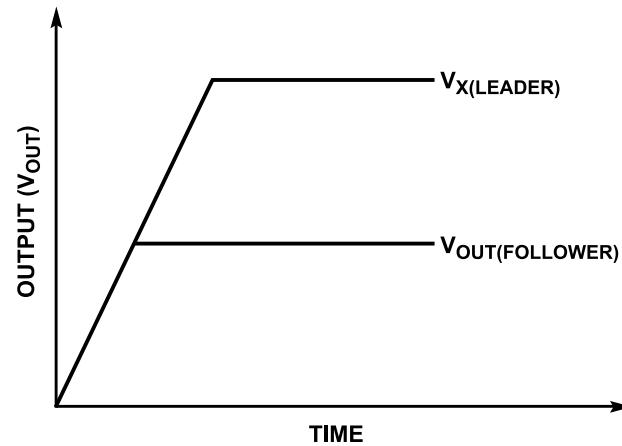
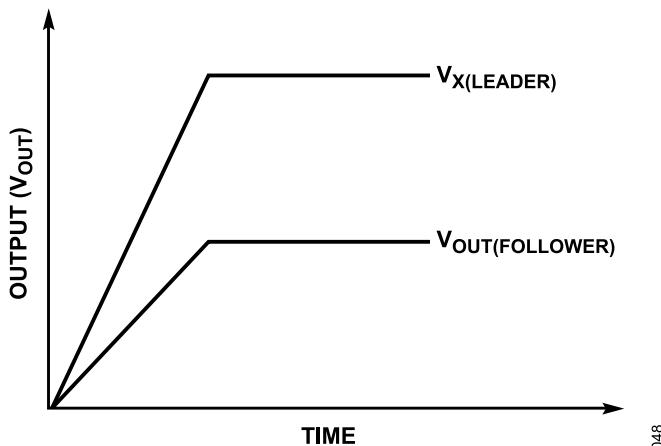
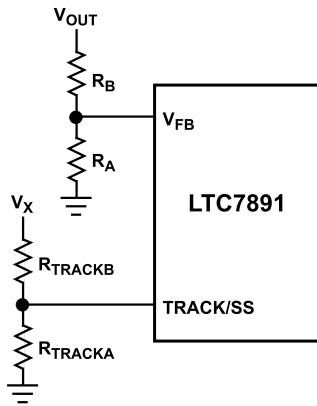

Figure 47. Coincident Tracking
Figure 48. Ratiometric Tracking
Figure 49. Using the TRACK/SS Pin for Tracking
Alternatively, the TRACK/SS pin can be used to track another supply during startup, as shown qualitatively in Figure 47 and Figure 48. To track another supply, connect a resistor divider from the leader supply (VX) to the TRACK/SS pin of the follower supply (VOUT), as shown in Figure 49. During startup, VOUT tracks VX, according to the ratio set by the resistor divider in Equation 19: